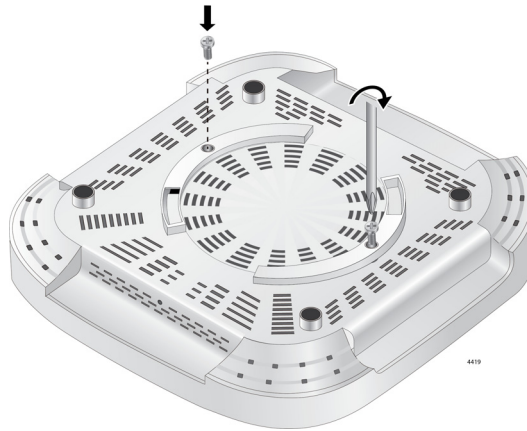

Figure 5. Attaching the Screws to the Access Point Chassis
1. Install the two screws (provided) in the bottom side of the access point chassis. Refer to Figure 5.